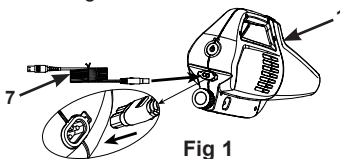
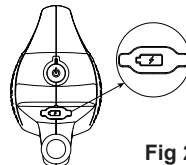

Fig 1
Fig 2
2. Connect the small end of the USB cable (7) into the vacuum body (1) charging receptacle. See fig 1. The indicator light will turn red at this time. When fully charged, the indicator light will turn green. See fig 2.